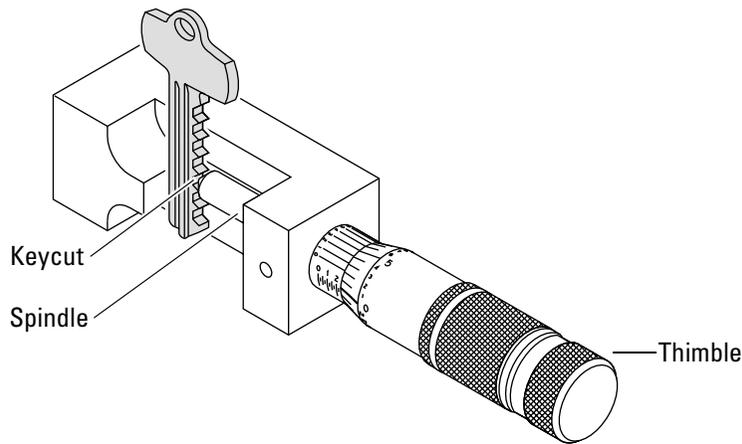

Figure 3.15 Inserting a key into the key gauge
2. Adjust the key so that the spindle is centered in between the third and fourth keycut, as shown in Figure 3.15.